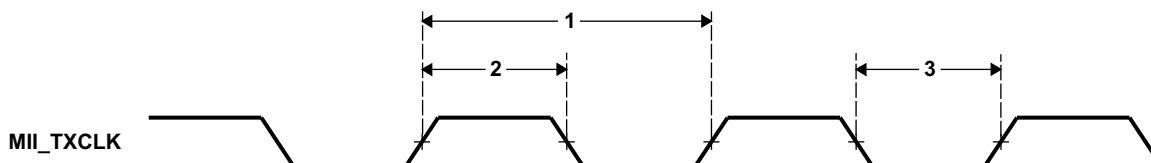

**Figure 5-48. MII\_RXCLK Timing (EMAC - Receive)**
**Table 5-100. Timing Requirements for MII\_RXCLK (see Figure 5-48)(1)**